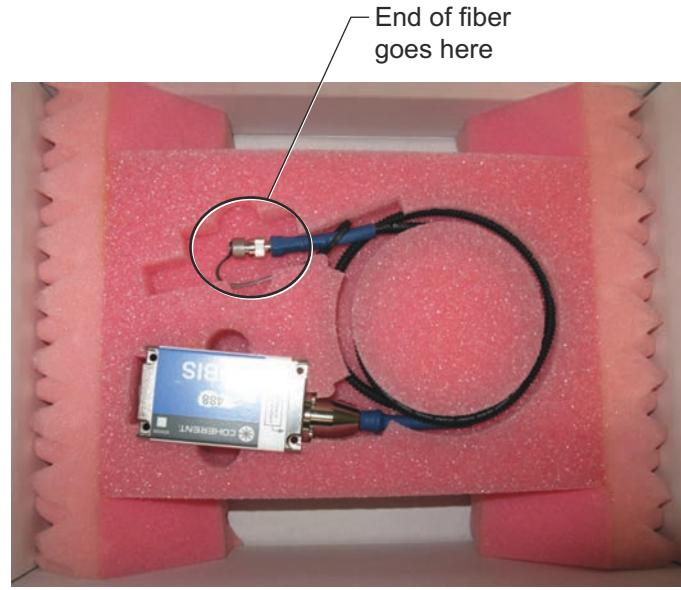

Figure 9-7. Fiber Positioned in Packaging Foam
4. Carefully position the laser and wind the fiber as shown in Figure 9-7. Make sure the fiber end is set in the designated space in the packaging foam.